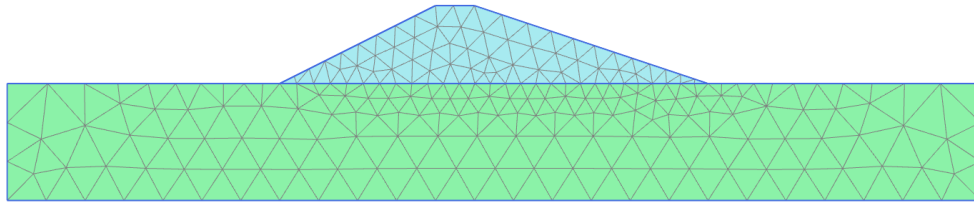

Figure 2-3: The generated mesh
- 4 Click the **View mesh** button  to view the mesh and the generated mesh is shown in Figure 2-3 \(p. 44\).